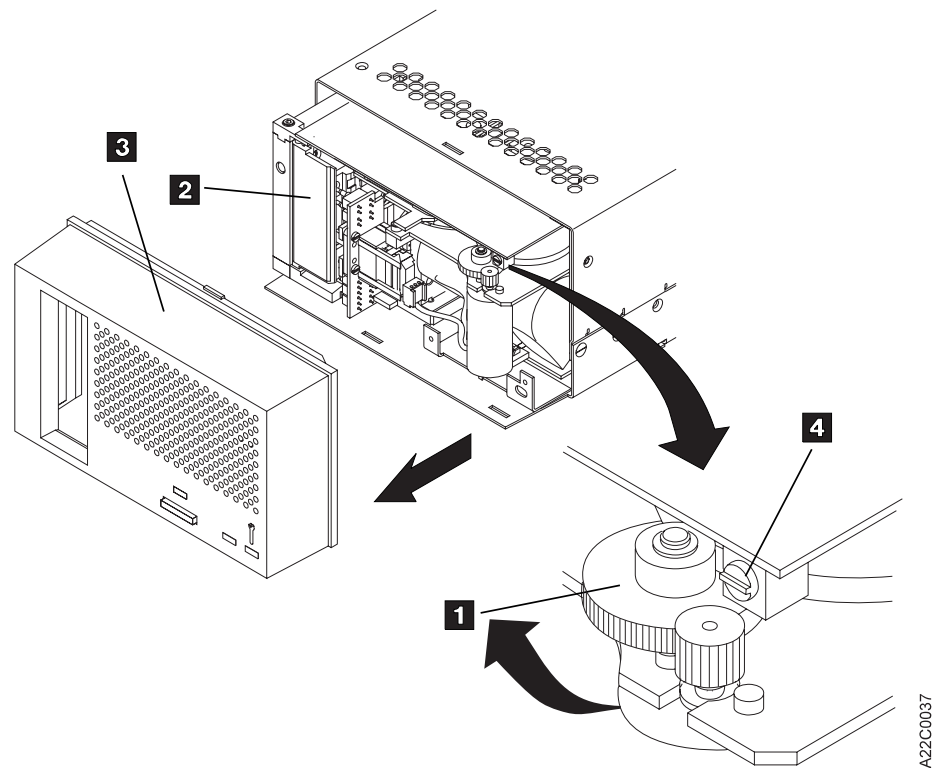

Figure 16. Removing a Stuck Cartridge from Model C00
4. See Figure 16. Remove the drive cover **3** from the drive by pressing the top center of the drive cover and pulling it free.